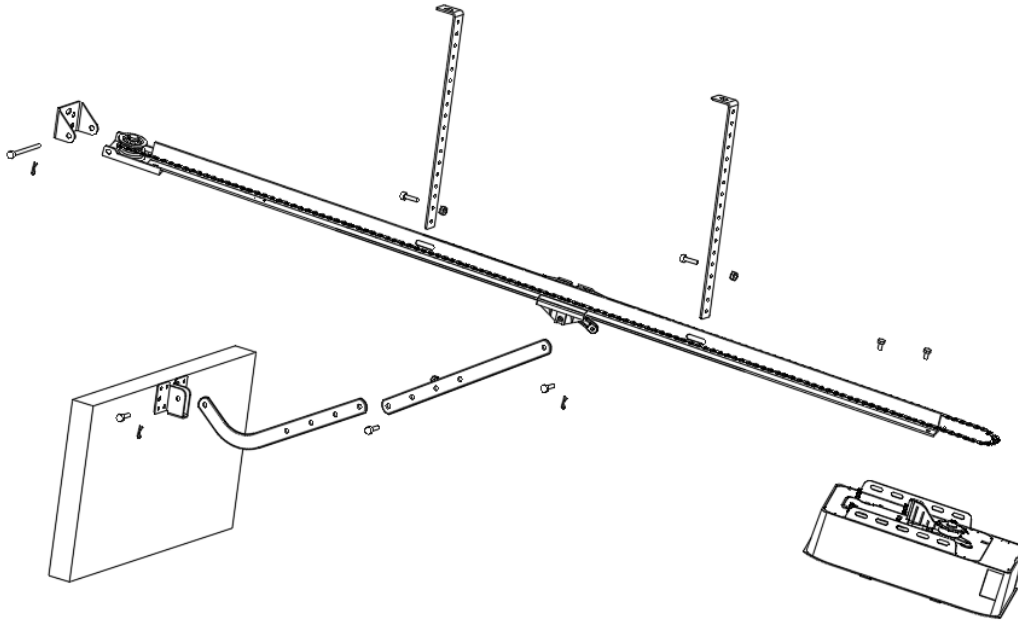

Figure 15
STEP1 (Fig.15)
STEP2 (Fig.15)
STEP3 (Fig.15, Fig.16)
STEP4 (Fig.15, Fig.17)